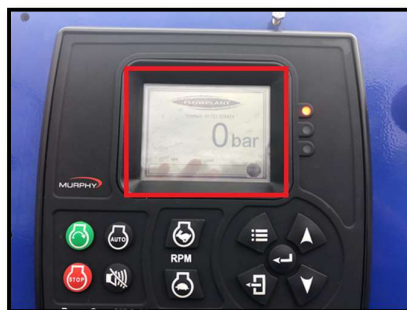

Fig 3 Pressure Gauge Display
4. Observe the pressure displayed on the control panel screen and note the pressure reading (See Fig. 3). Press the water 'off' button and select idle. Note: If the pressure is significantly lower than expected, turn the unit off and replace the nozzle with a new one.
5. Pull the gun trigger and observe the pressure gauge mounted on the instrument panel, note the pressure reading (See Fig. 3). Press the  button until engine tick over speed is reached, then press the 'water off' button and return the unit to the idle position